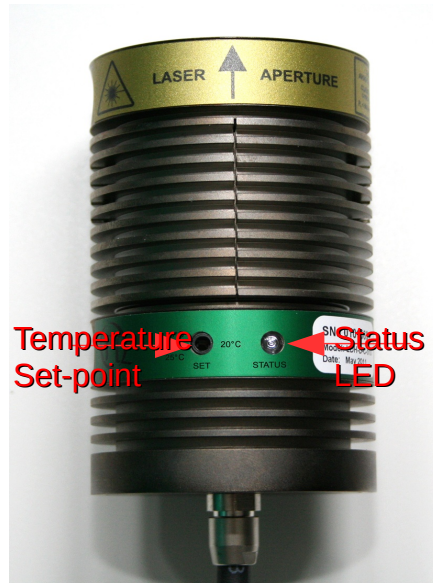

Fig. 3: Top view of a LDH-C laser head with temperature set-point potentiometer and status LED.
The thermoelectric (TE) cooler maintains the temperature of the diode element and collimating optics at a constant level. The factory pre-set value is approximately 20 °C. Before first operating the diode laser, verify that the temperature control potentiometer is set correctly. The desired temperature can be set via the Set-Point Adjustment potentiometer (see fig. 3) using a screwdriver.